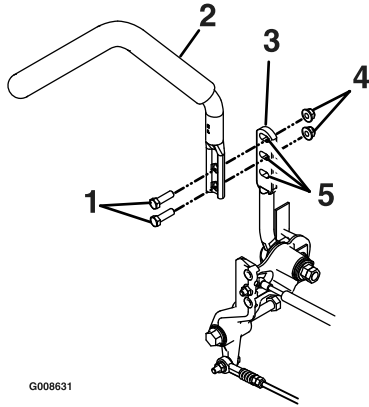

Figure 36
1. Remove the two bolts holding the control lever to the control arm shaft (Figure 36).
2. Loosen the lower bolt just enough to pivot the control lever fore or aft (Figure 36). Tighten both bolts to secure the control in the new position.